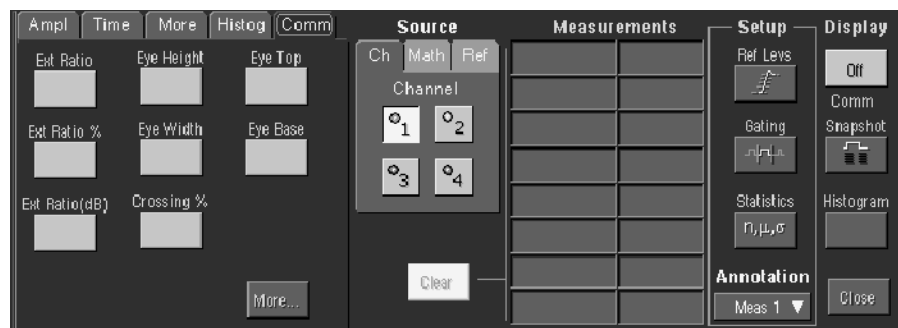

Figure 3: Communication measurement functions
2. Select the **Comm** tab. The instrument displays the communication measurement functions, as shown in Figure 3.